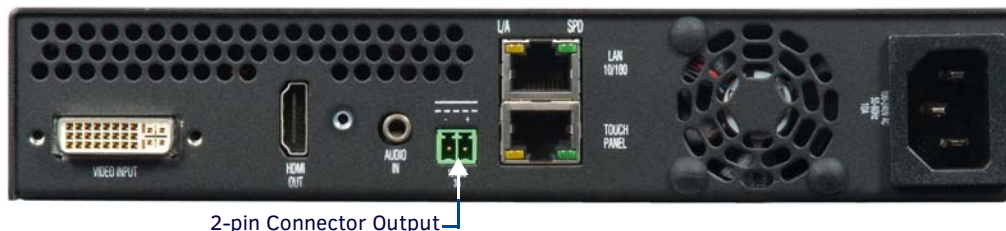

FIG. 4 Rear of the MXA-MP/MPL
Instead of using a separate external power source, touch panels using an external power source may also connect to the device via the 2-pin connector output on the device's back (FIG. 4).
1. Insert the incoming cable from the network LAN to the upper *Ethernet In* RJ45 connector (FIG. 4).
3. If the touch panel is an MXD/T-1900L-PAN or MXD/T-2000XL-PAN (panoramic) device, outgoing power to the touch panel may be supplied via the device's 2-pin connector output (FIG. 4) or through another source. Do not apply power until the installation is complete.
- Insert the incoming cable from the network LAN to the upper *Ethernet In* RJ45 connector (FIG. 4).
The *Diagnostic Out* port (FIG. 4) mirrors the video signal being sent to the MXA-MPL for diagnostic purposes, such as assessing video sources. The *Diagnostic Out* port output displays on an available screen or touch panel as a 1280 x 720p HDMI signal. This output cannot be modified or expanded. While the *Diagnostic Out* port may be used in certain circumstances as an HDMI output port, the inability to modify the output should relegate it to diagnostic purposes only.